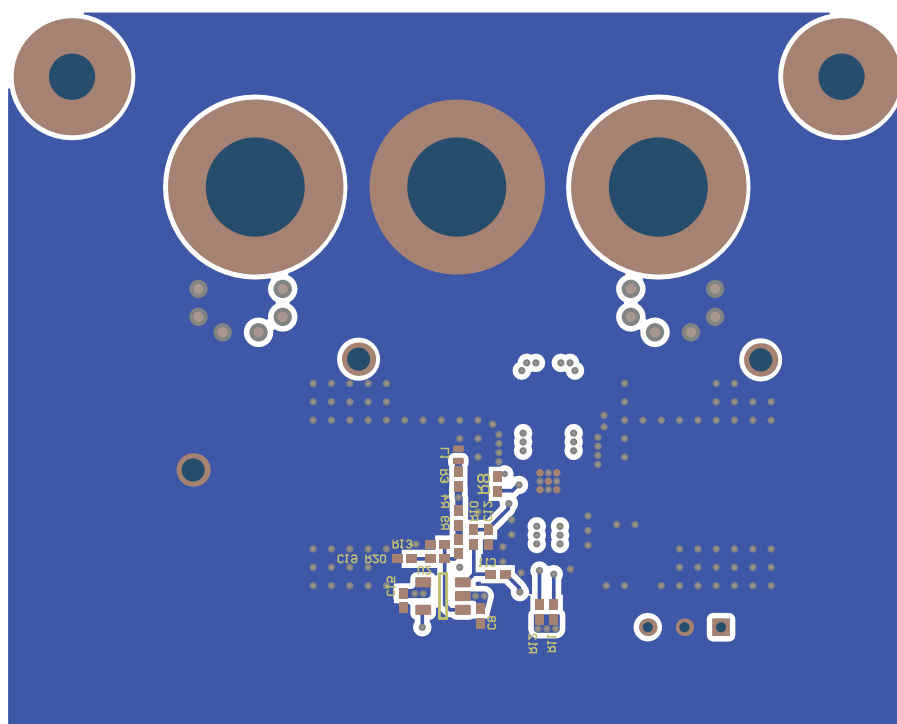

图 11-3. Layout Example: Bottom Layer
- **High precision signal path,** consisting of the precision op amp along with discrete components, can be adjusted and moved around to give precedence to the above two points. In the 图 11-3, the precision components were placed on the opposite side of the PCB as the BUF802.